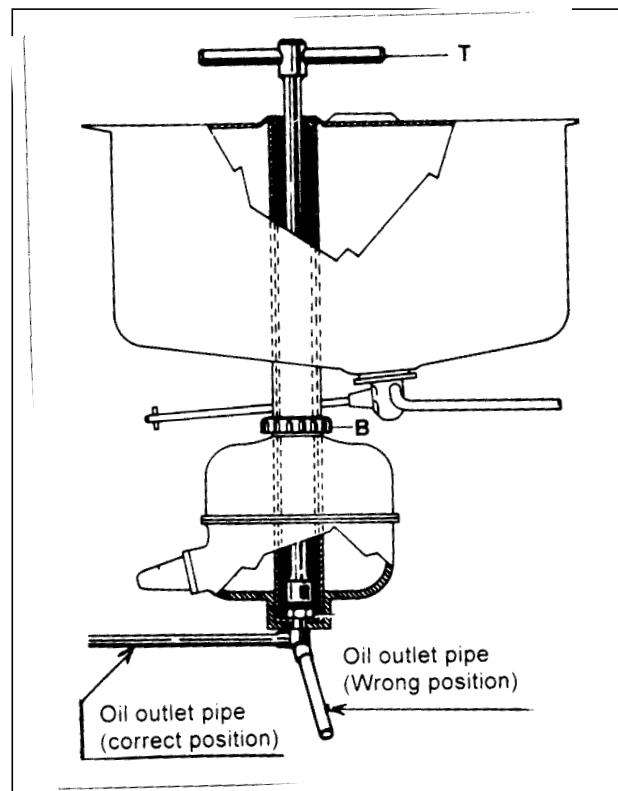

Fig.80
- (d) Remove the oil tank cap No.2.(see fig.80)